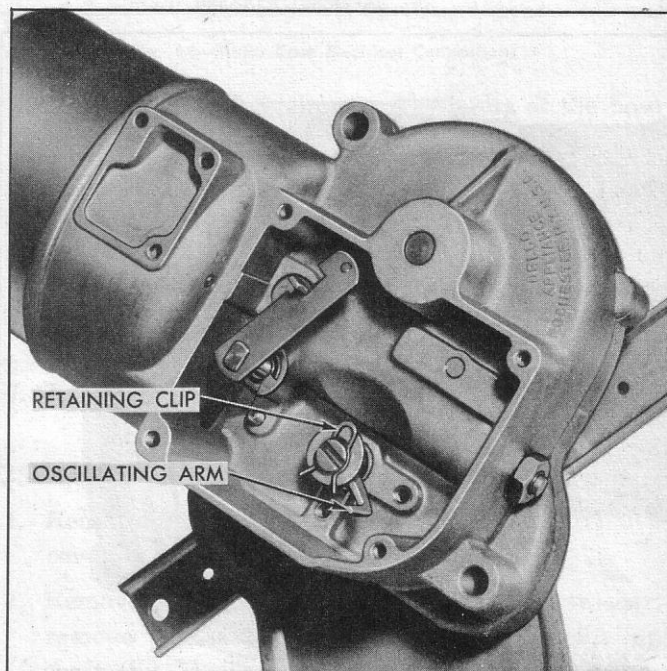

Fig. 7—Oscillating Arm—Switch Removed for Clarity Only
2. Remove oscillating arm retaining clip and washer, remove oscillating arm from slot in oscillating shaft (fig. 7). This operation is necessary for removal of the drive mechanism.